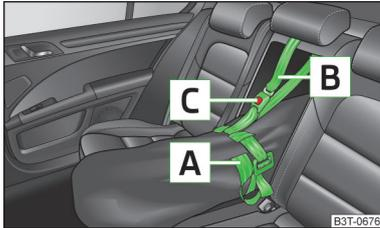

Fig. 98
- Tighten the strap **A** on the free end around the skis in front of the bindings » Fig. 98.
- After placing skis into the through-loading bag, you must secure the bag with the securing strap **B** » Fig. 98.